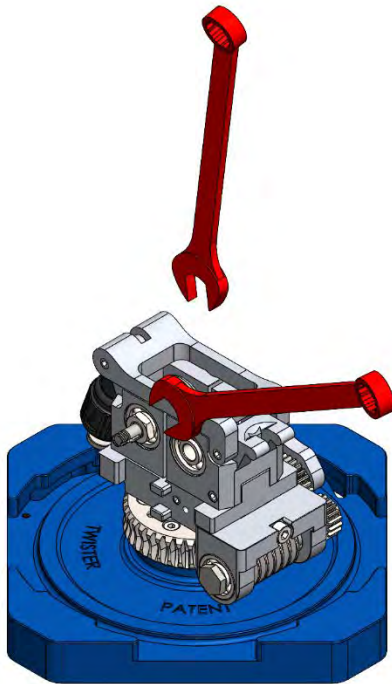

Figure 49
4. Similarly to what was done in step 2, unscrew the M10 nut located on the shaft of the secondary contact wheel as shown in the figure. Figures 49 and 50;